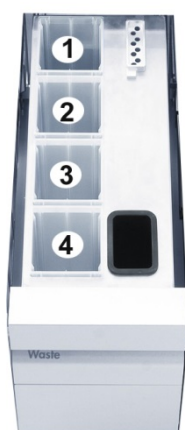

Figure 1. Position of unit boxes (1–4).
- Insert empty unit boxes (see Table 4 and Figure 1). Make sure that there is at least one empty unit box in slot 4 (closest to you).